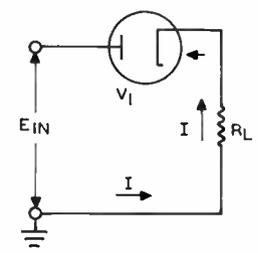

FIGURE 8
3. In the circuit of Figure 8, current  $I$  is produced in  $R_L$